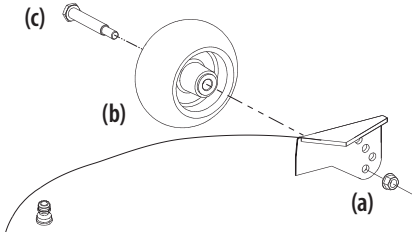

Figure 11
- Remove the lock nut (a), gauge wheel (b) and shoulder screw (c) from the deck. See Figure 11.
- Insert the shoulder screw (c) into one of four index holes on the deck wheel bracket. Allow a 1/4-1/2" (6.35-12.7 mm) clearance between the ground and gauge wheel. See Figure 11.